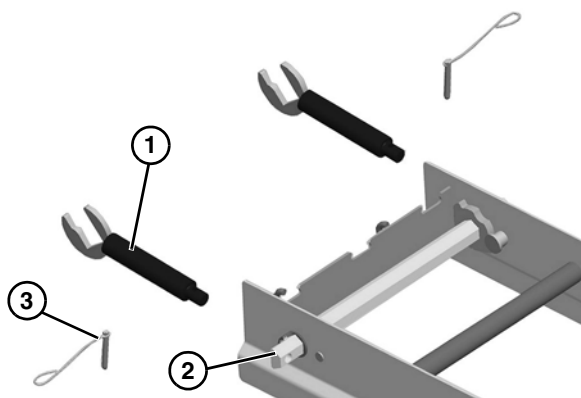

Figure 22
- Attach nose bar idler shaft hands (Figure 22, item 1) to the tip up shaft (Figure 22, item 2) with a pull pin (Figure 22, item 3).